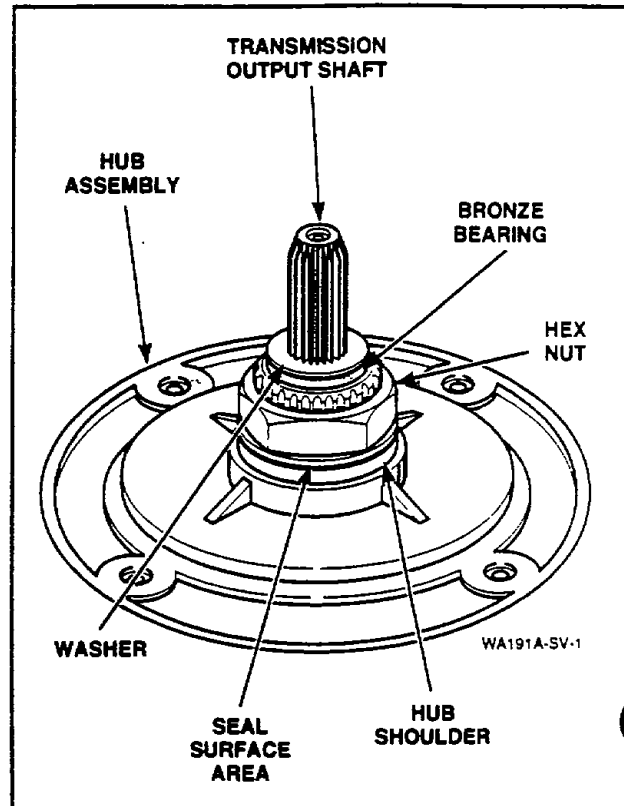

Figure 19
- m. Thoroughly clean any foreign material from the seal surface area of the hub and bronze bearing, *Figure 19*.